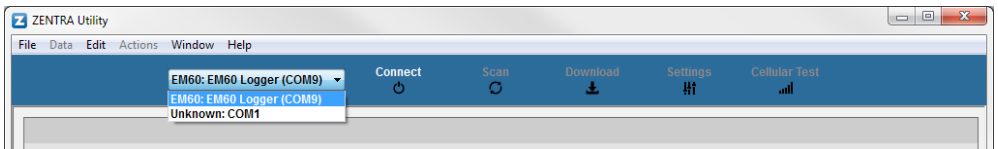

Figure 2 COM port dropdown
3. On the ZENTRA Utility main screen, select the appropriate COM port from the dropdown menu (Figure 2).
4. Click the Connect button next to the COM port dropdown menu (Figure 2).